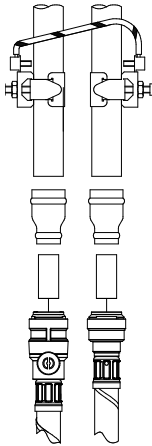

Figure 13
- **Adjacent pipes:** Adjacent suction and delivery pipes should be fitted with earthing clamps in accordance with current regulations (Figure 13).